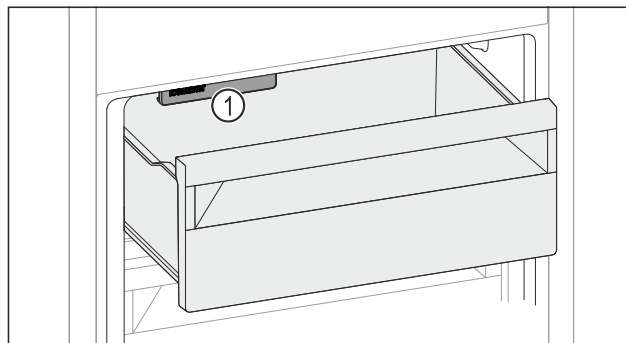

Fig. 109
- ▶ Pay attention to the IceMaker Fig. 109 (1).